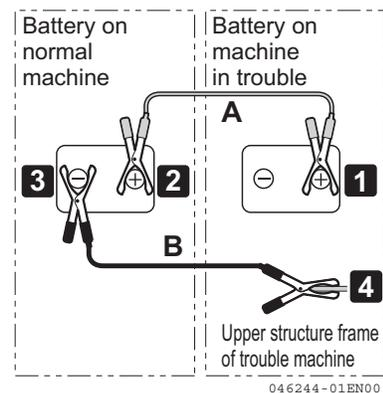

Fig. 7-7
2. Connect the clip of the booster cable (**Fig. 7-7, A**) (normally red) to the positive terminal on the machine in trouble.
3. Connect the other clip of the booster cable (**Fig. 7-7, A**) to the positive terminal on the normal machine.
4. Connect the clip of the booster cable (**Fig. 7-7, B**) (normally black) to the negative terminal on the normal machine.
5. Connect the other clip of the booster cable (**Fig. 7-7, B**) to the upperstructure frame of the machine in trouble.